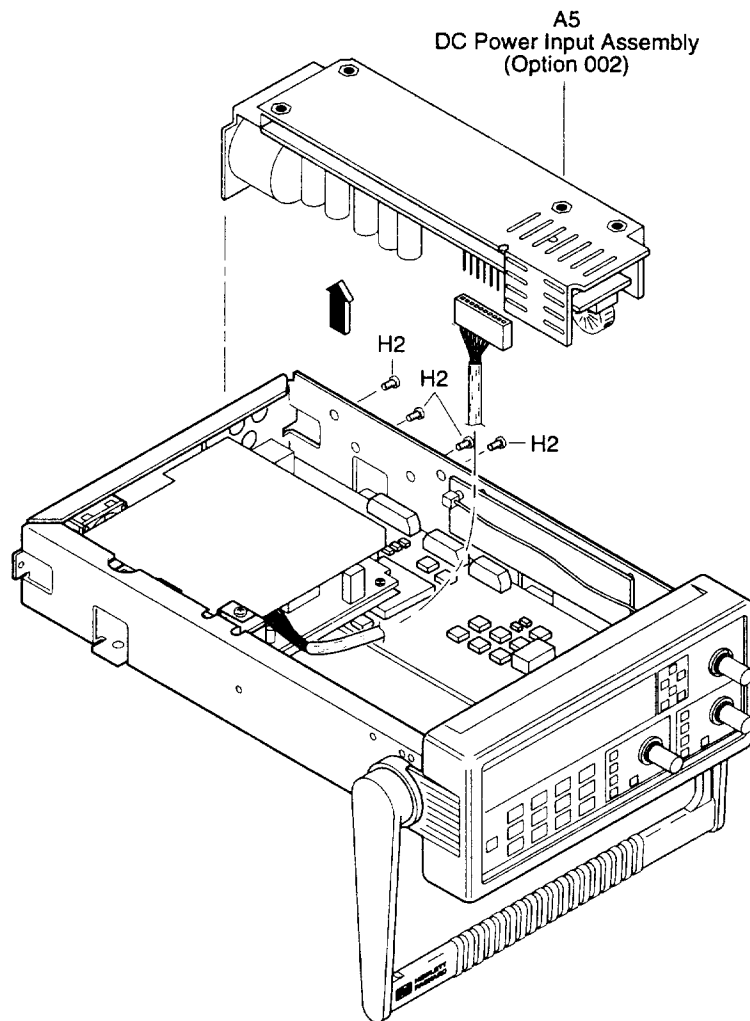

Figure 3-10. DC Power Input Assembly (Option 002) Removal
- 5 If the Counter contains the Option 002 DC Power Input Assembly, disconnect A4 AC Power Supply's other cable from Option 002 as shown in Figure 3-10.
- 2 Remove the four TORX 10 screws (H2) that attach A5 DC Power Input Assembly to the side of the chassis as shown in Figure 3-10.**
- 3 Lift out A5 DC Power Input Assembly and disconnect cable as shown in Figure 3-10.